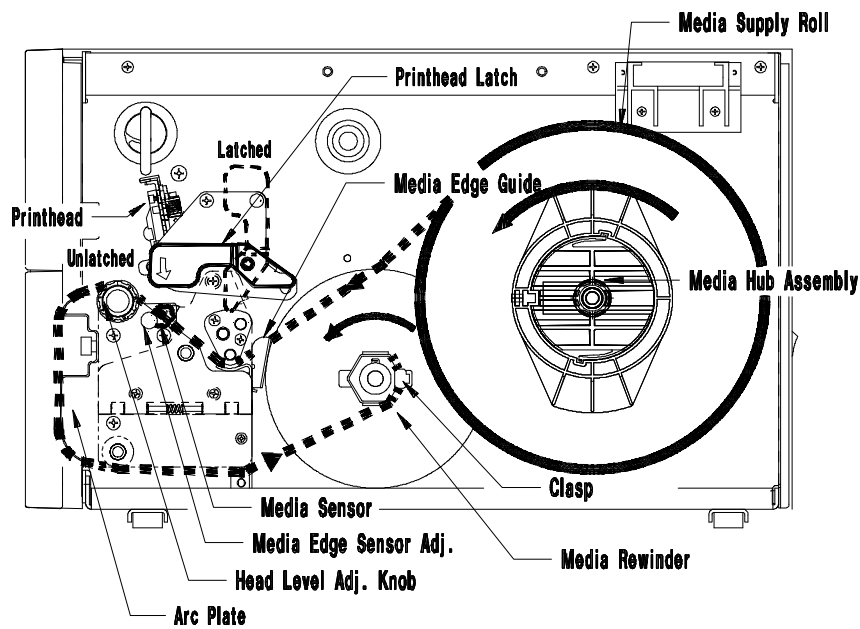

Figure 2-7 Installing Media with Internal Rewind Option
7. Route the media over the Guide Plate, between the Media Sensor, and over the Platen Roller, (located beneath the Printhead), around the Arc Plate and to the Media Rewinder as shown Figure 2-7.